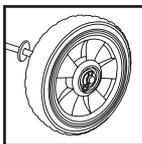

FIGURE 5
6. Slide on one washer. **FIGURE 5.**